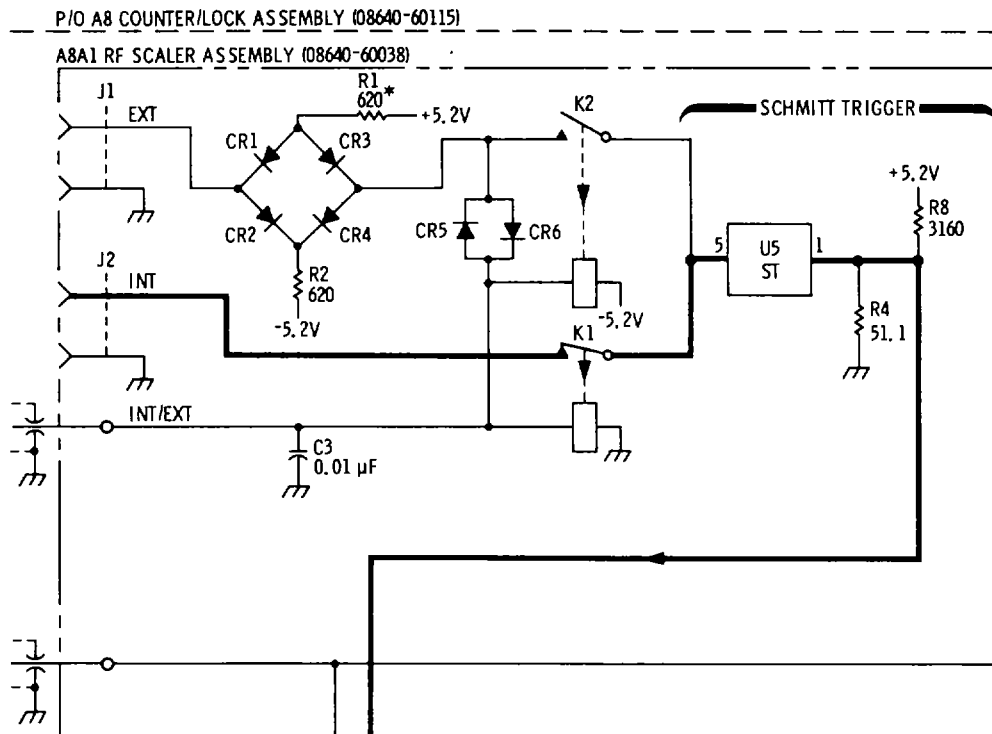

Figure 7-5. A8A1 RF Scaler Assembly Backdating (Change E).
- Replace appropriate portion of schematic with attached partial schematic (Figure 7-5).